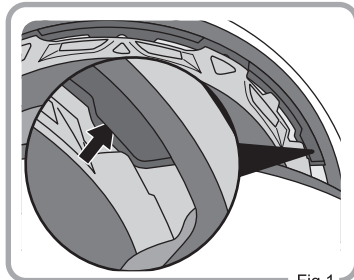

Fig.1
- 1.Insert the interlining at the temple areas as shown in Fig.1.